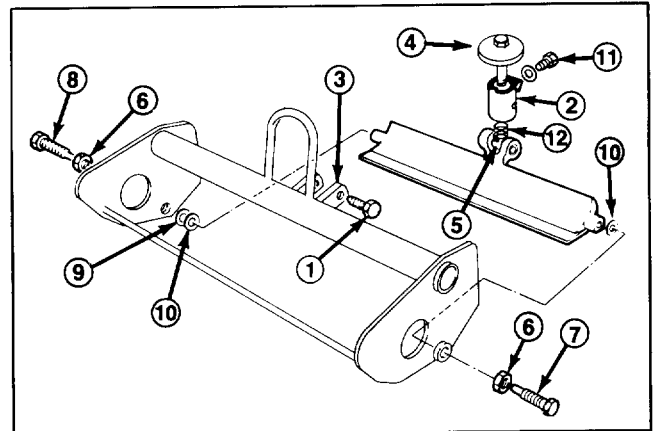

Figure 18
1. Remove spring arm retaining capscrew and washer from pivot assembly. Loosen pivot screws securing bedknife pivot assembly to reel frame supports (Fig. 18).
2. Rotate adjustment knob and pivot assembly clockwise (left hand thread) until it separates from bedbar pivot (Fig. 18).
3. Loosen jam nuts retaining right and left bedbar pivot bolts. Remove pivot bolts (Fig. 18).
8. Mount right side of bedbar to sideplate with shoulder bolt, jam nut, steel washer, and plastic washer. Position washers between bedbar and sideplate with plastic washer closest to bedbar. Adjust shoulder bolt (right hand) until left end of bedbar assembly firmly seats against left side plate, clamping the plastic washer tightly — thus all end-play is removed from bedbar. Bedbar must pivot without binding, with bedknife adjusting knob and pivot assembly not installed. Tighten jam nut while holding shoulder bolt (Fig. 18).
9. Thread adjustment knob and pivot assembly into flat side of bedbar pivot until mounting holes in pivot assembly are aligned with holes in reel frame supports and bedknife does not interfere with reel (Fig. 18).